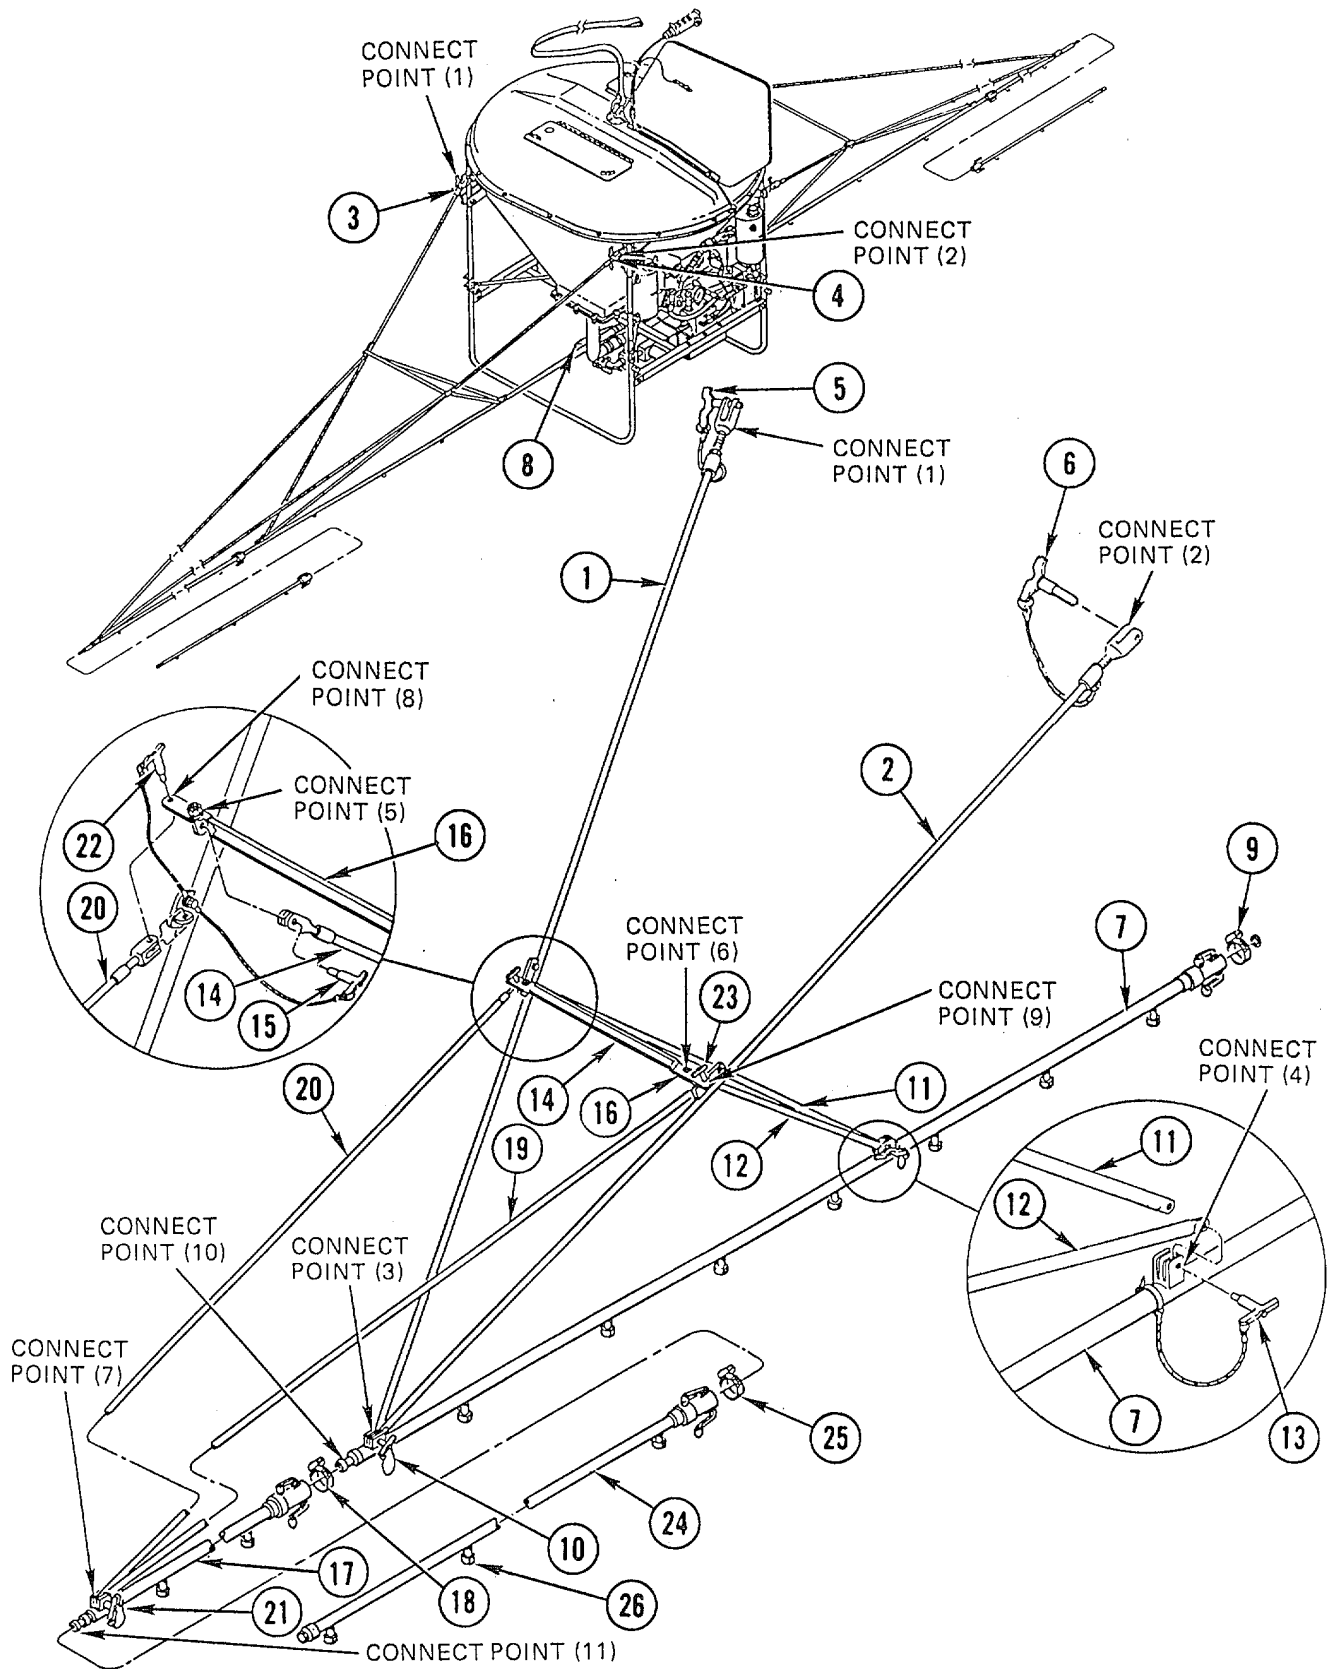

Figure 2-6. Assembly of LV System
- (1) Connect Points 1 and 2: Install two struts (1 and 2, figure 2-6) at top of right bucket leg weldments and secure to strut anchors (3 and 4) using two quick-release pins (5 and 6).
- (2) Install outboard boom weldment (7) on center boom weldment (8) of pump and crosstube assembly. Secure by closing Kamlock ears over end of boom weldment. Do not install clamp (9) at this time.
- (3) Connect Point 3: Using upward pressure, connect other ends of struts (1 and 2) to outboard boom weldment (7) at Connect Point 3 using quick-release pin (10).
- (4) Connect Point 4: Attach struts (11 and 12) to outboard boom weldment (7) at Connect Point 4 using quick-release pin (13).
- (5) Connect Points 5 and 6: Attach opposite ends of struts (11 and 12) to eyebolts on cross strut (14) at Connect Points 5 and 6 using quick-release pins (15 and 16).
- (6) Connect Point 10: Install outboard boom weldment (17) on outboard boom weldment (7) Secure by closing Kamlock ears over connection. Do not install clamp (18) over ears at this time.
- (7) Connect Point 7: Attach struts (19 and 20) to outboard boom weldment (17) at Connect Point 7 using quick-release pin (21).
- (8) Connect Points 8 and 9: While supporting end of weldment (17), connect cross strut (14) to struts (1, 2, 19, and 20) at Connect Points 8 and 9 using quick-release pins (22 and 23).
- (9) Connect Point 11: Install boom extension (24) on end of boom weldment (17) and secure by closing Kamlock ears over connection.